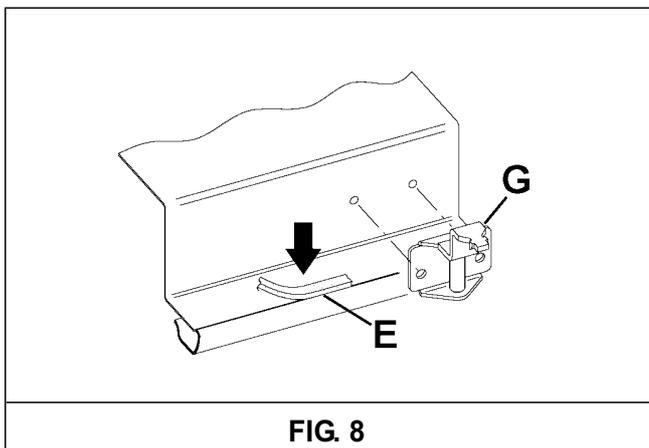

FIG. 8
- fix the hooks in the relative accommodations of the body (see fig. 8).
- Overturn the hob, take the seal strips off from their support, having care that the transparent protection remains attached to the seal. Correctly place the seal "E" (fig. 8) under the hob edge, so that the external side of the seal fits together with the external perimetric edge of the hob. The ends of the strip must fit together without overlapping.